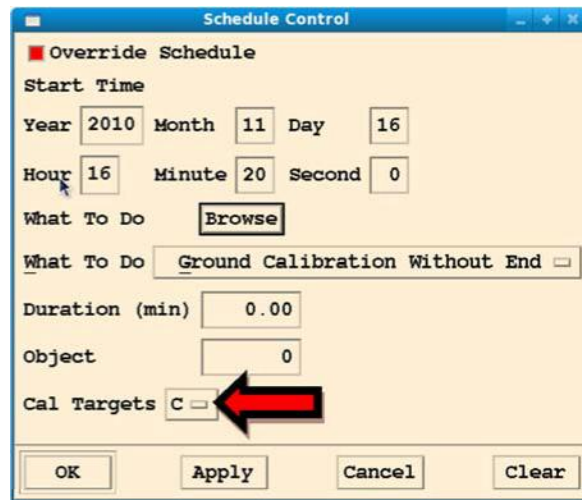

Figure 6-8: Schedule control window
- a. On RAT, go to the Control => Schedule submenu (Figure 6-8).
- b. Open the Cal Targets pull down menu and select the next target (Figure 6-8).